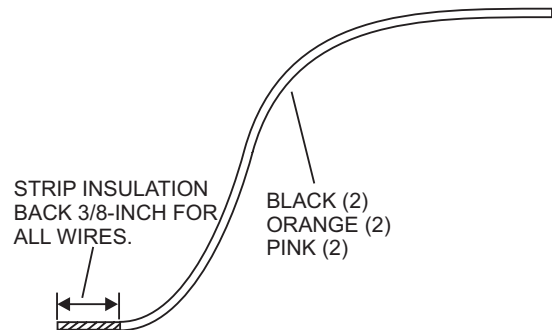

Figure 3. Wire Insulation Removal
- Strip off 3/8-inch insulation (Figure 3) from all wires that were connected to rectifier Re1.